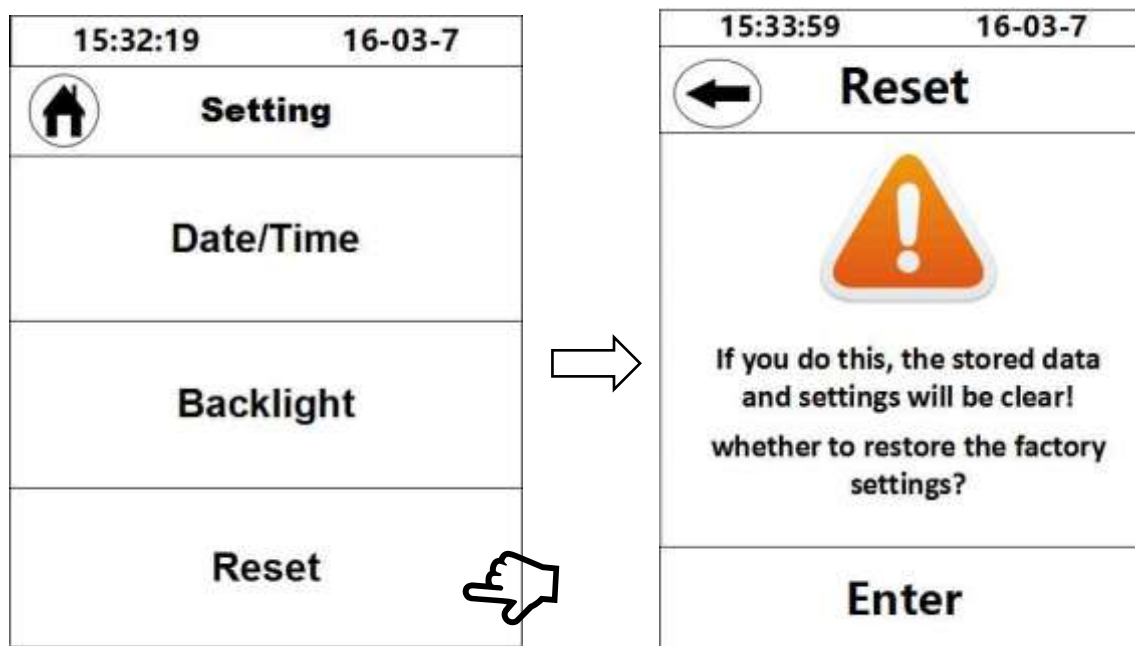

Fig. 31
4.3 Reset to the factory parameters: Click “Reset” to enter the interface show at right below, click “Enter” to reset the instrument to the factory state, and clear the test records and parameter records saved in the memory (Fig. 31).